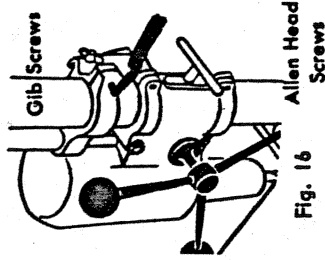

Fig. 16
1. To adjust for play caused by wear on rack, set gib screws Fig. 16.
2. Tighten column housing by adjusting Allen head screws Fig. 16.